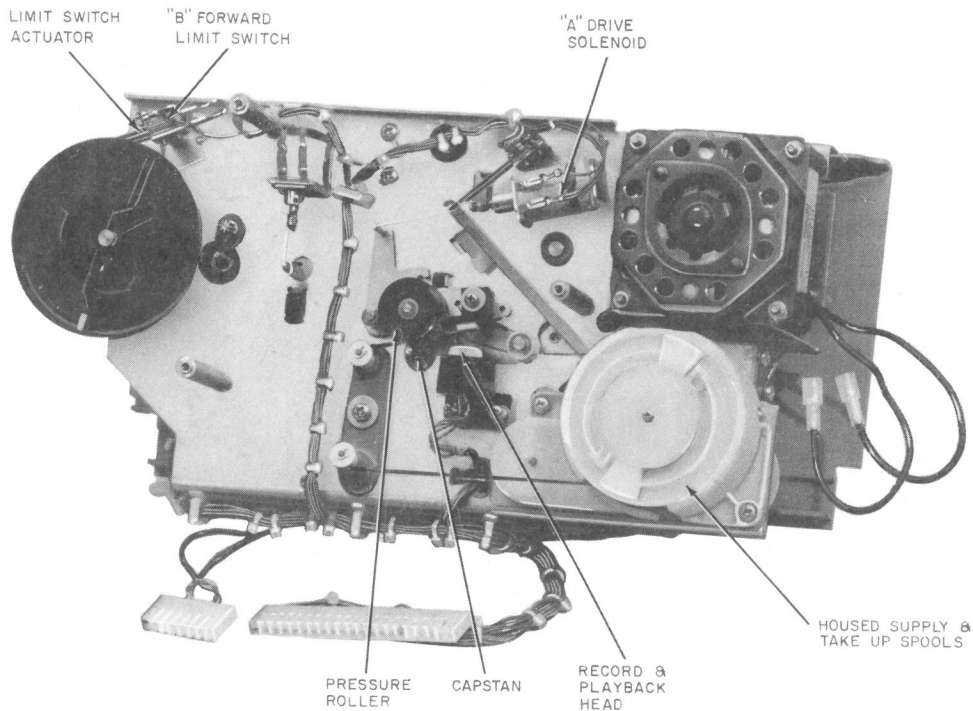

Fig. 10—KS-19245, List 21 Tape Deck With Trimplate Removed (Announcement Side)
- (a) The KS-19245 Tape Deck (Fig. 10 and 11) contains both the announcement and message recording mechanism. The announcement record mechanism (Fig. 10) provides a maximum recording capacity of 3 minutes and incorporates a variable cycle feature that limits the reproduce cycle to the duration of the recorded announcement only. This recorder is equipped with 1/4-inch wide plastic base magnetic recording tape installed on special reels. The tape and reels form an integral part of the recording mechanism and **cannot** be changed by the customer since replacement of either requires partial disassembly of the mechanism. Facilities are provided for limiting the maximum recording time to 15-second increments (from 15 seconds to 90 seconds) or 30-second increments (from 90 seconds to 180
time to 1 or 2 hours. This is done by adjusting the limit switch actuator (Fig. 10). The adjustment may only be made by the installer.